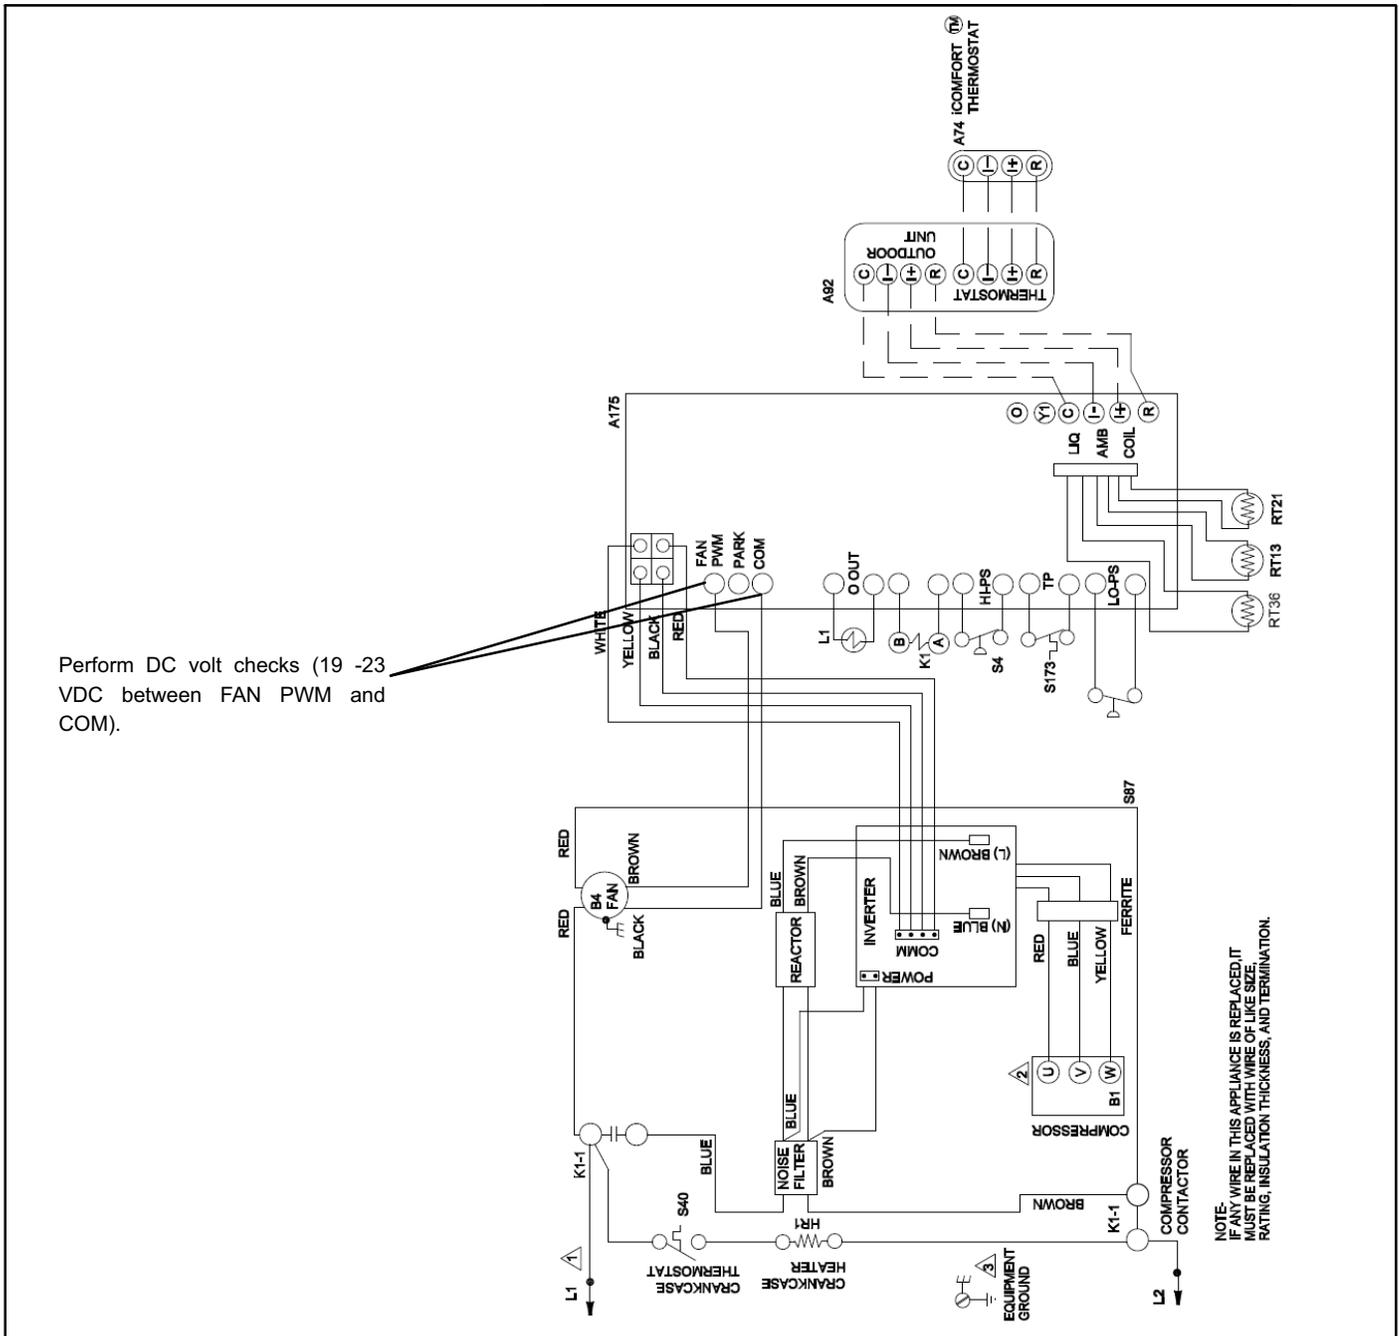

Figure 45. VAC Voltage Check
Check for 208/240 VAC power at inverter contactor (red wires) (see figure 45).
2. Voltage present – Perform DC volt checks (19 -23 VDC between FAN PWM and COM) (see figure 45).